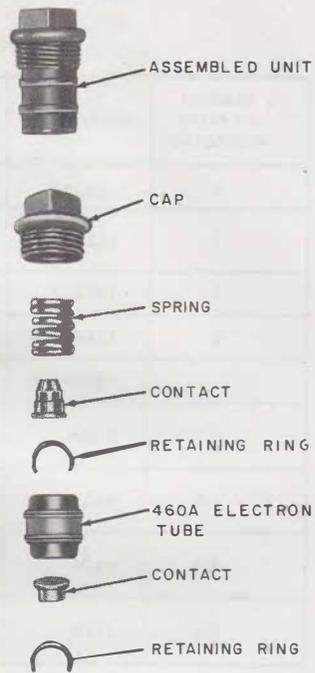
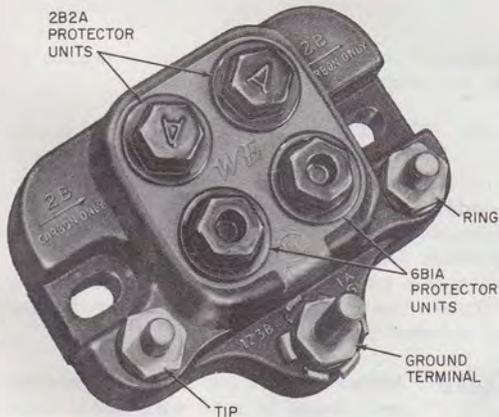

Fig. 4—6B1A Protector Unit
Fig. 3—123B1A Protector
3.04 The **123B1A protector** (Fig. 3) provides protection for one pair of wires and is recommended for use where lightning activity makes frequent replacement of protector blocks necessary. It consists of a nonconductive base containing three binding posts and two 6B1A gas tube protector units (Fig. 4) in parallel with two 2B2A protector units. The 6B1A protector units are not grounded permanently by lightning surges but may be damaged by power currents. Therefore, carbon protector backup is provided to assure fail-safe protection.